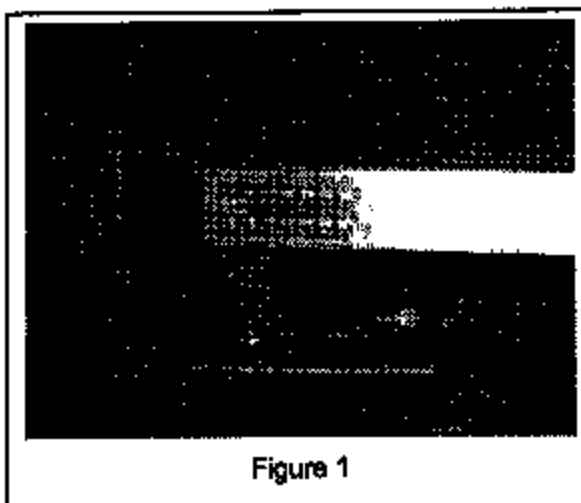

Figure 1
3. Working underneath the motorcycle as shown in Figure 1 and 2, use a machinist's scale to measure the shock extension distance from the face of the shock housing to the piston rod stop collar. Make sure the near end of the scale is square against the shock housing as shown. Keep the near end straight and parallel with the shock piston rod while flexing the opposite end of the scale to clear the rear shock mounts and frame. It will not be uncommon for the two shocks to have up to 1/16" difference in their extension distances due to manufacturing variances in the frame and swingarm weldments.
- b. For Daytec Choppers ("I" project no.), the stops thread directly into the frame, and there are also two aluminum bump stop spacers and a hard stop button and strap assembly which come off with the bump stops. See Figure 1
For Daytec Chopper models, be sure to install the stops with the original aluminum spacers installed over the bumper 1/4" stud and the hard stop strap sandwiched between the aluminum spacers and the frame. See Figure 1. Use blue Loctite 242 or equivalent on the bump stop threads.